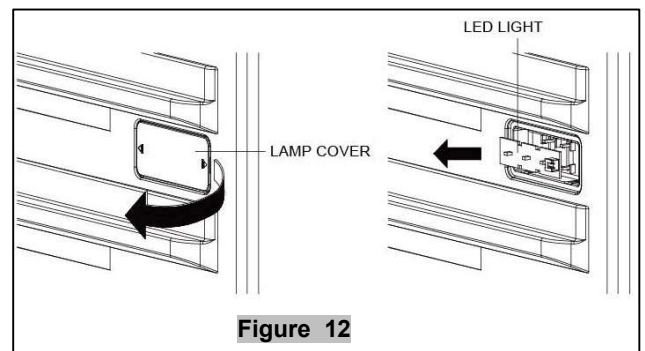

Figure 12
2. Separate the claw attached to the LED light. Separate the lead wire housing. (figure 12)